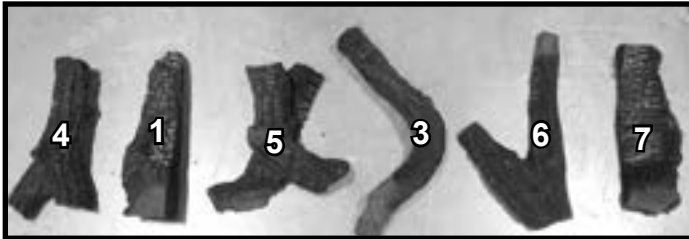

Figure 15. LOGS-COSMO36
**NOTICE:** To simplify the installation process, use Figure 15 to positively identify each individual log before beginning installation.